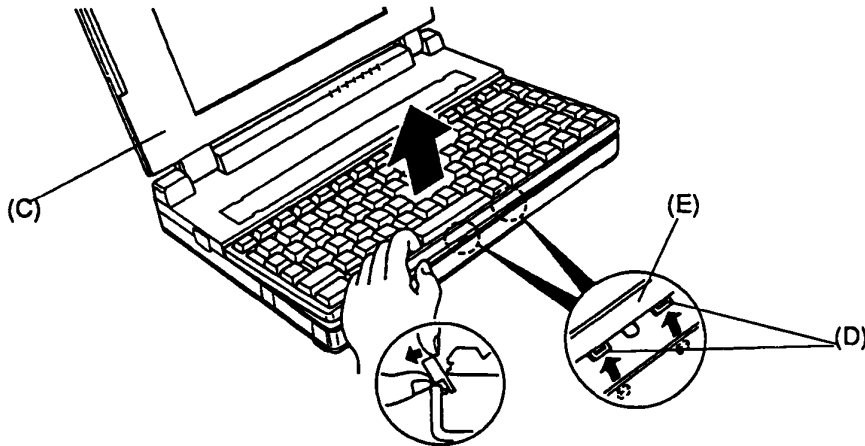

Figure 4-6 Releasing the keyboard mask from the base assembly
6. Open the display panel (C).
7. Unsnap the latches (D) securing the keyboard mask (E) to the base assembly. Press on the bottom of the keyboard mask and rotate the keyboard's front edge toward you to release the latches (Figure 4-6).
5. Lower the keyboard onto the base assembly making sure the edges of the keyboard mask align with the base assembly all the way around the keyboard mask. Secure the latches on the front of the keyboard and recheck the alignment of the keyboard and the base assembly (Figure 4-6).